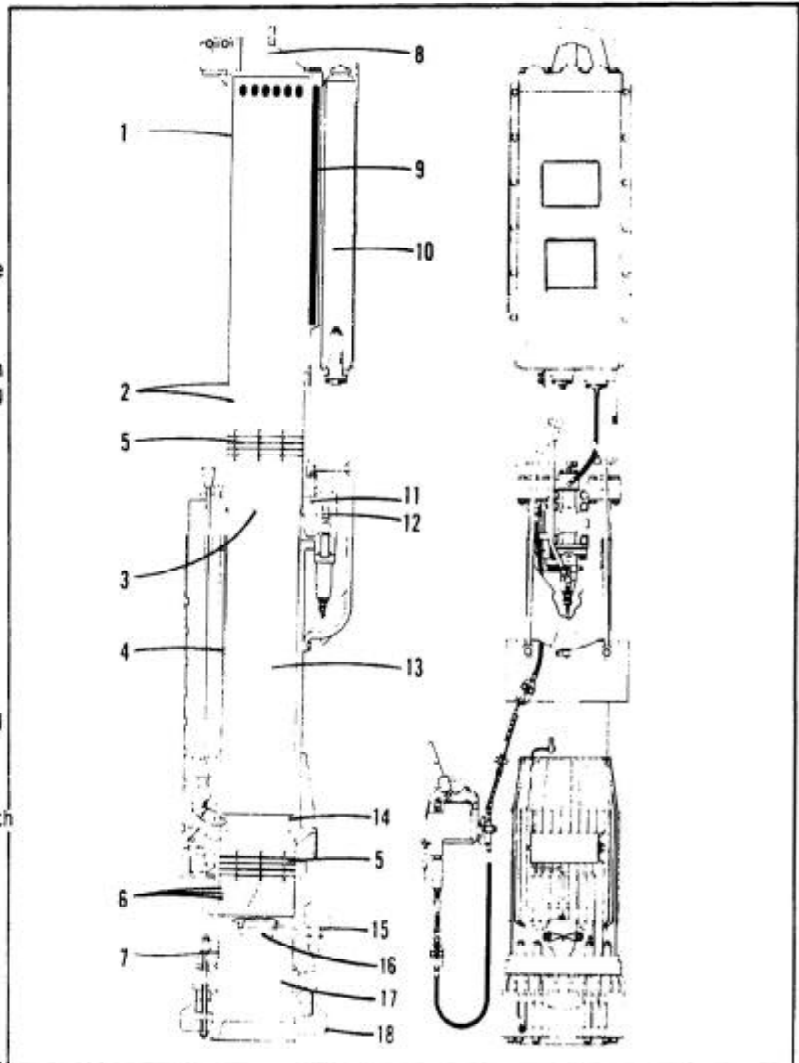

Fig. 5-1
The cylinder head (8), Fig. 5-1, allows for air compression plus giving the ram and cylinder bore protection from the elements and any foreign matter which may drop
Referring to Fig. 5-1, the ram (13) is a free piston and is the means by which the work output of the Hammer is delivered to the pile.
The bottom of the ram has five compression rings (6) Fig. 5-1, and a wear ring (5A) which guides the lower portion of the ram in the lower cylinder. This wear ring is identical to the upper wear ring and is located above the compression rings. The condition of the sight check wear grooves can be observed through the intake and exhaust ports. As explained earlier should any of the ring grooves wear smooth, the wear ring should be replaced. The five compression rings are mounted in grooves located in the bottom of the ram.